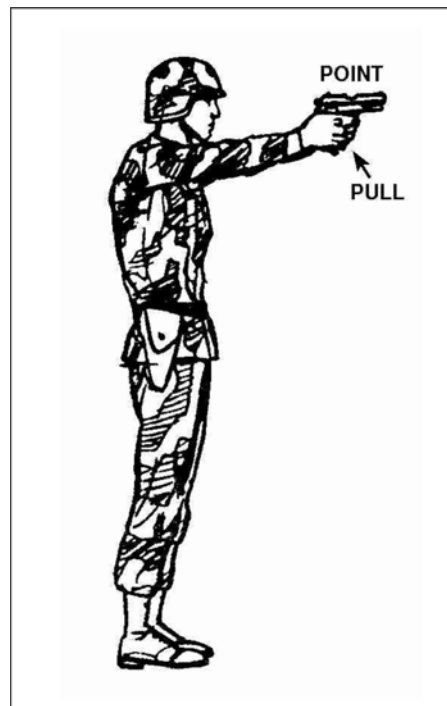

Figure 6. Standing Without Support
d. Standing without support (Figure 6).